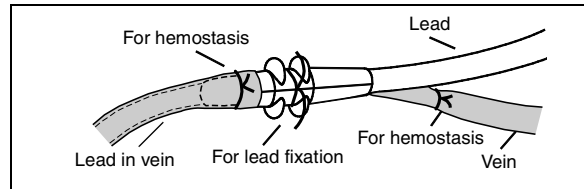

Figure 4. Securing lead with a suture sleeve.
1. Place the suture sleeve over the lead body. Slide the suture sleeve into the vein. Ligate the vein around the suture sleeve to obtain hemostasis (Figure 4).